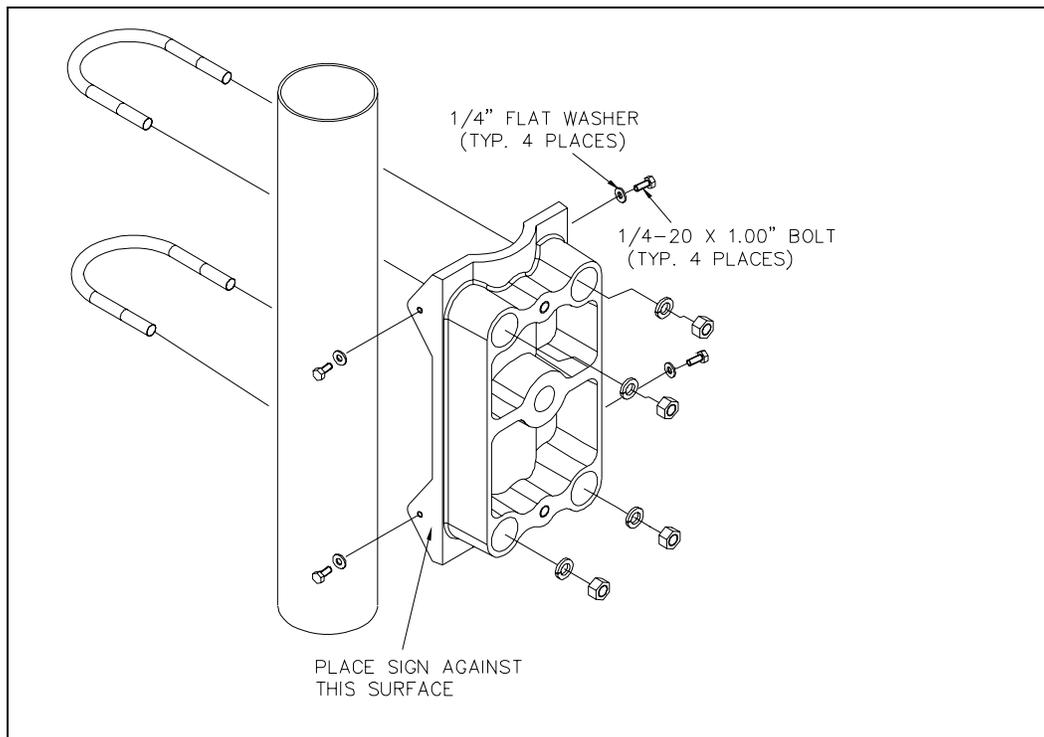

Figure 2. Sign Mounting Bracket Assembly
1. Mount the bracket by installing both supplied U-bolts around the exterior of the pole and through the bracket. Place the bracket at the desired height. Refer to Figure 2 below. Note that this bracket does not require drilling an access hole into the pole.